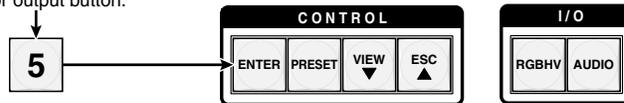

Figure 3-81 — Exit Serial Port Selection and Configuration mode
4. Press and release an output button to exit the *Serial Port Selection and Configuration* mode (figure 3-81).